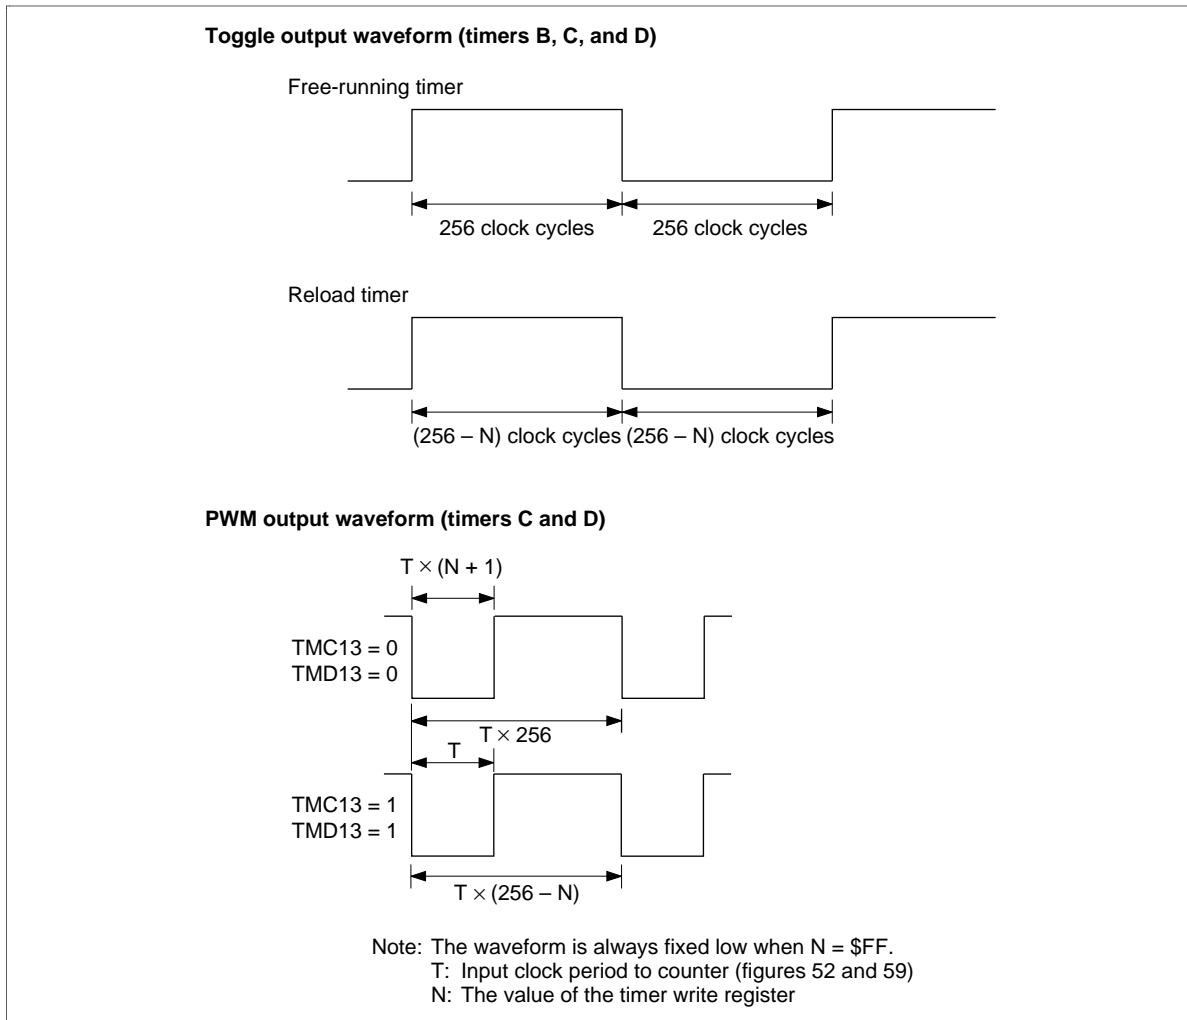

Figure 43 Timer Output Waveform
- Toggle output: When toggle output mode is selected, the output level is inverted if a clock is input after timer B has reached \$FF. By using this function and reload timer function, clock signals can be output at a required frequency for the buzzer. The output waveform is shown in figure 43.
- PWM output: When PWM output mode is selected, timer C provides the variable-duty pulse output function. The output waveform differs depending on the contents of timer mode register C1 (TMC1: \$00D) and timer write register C (TWCL: \$00E, TWCUC: \$00F). The output waveform is shown in figure 43.